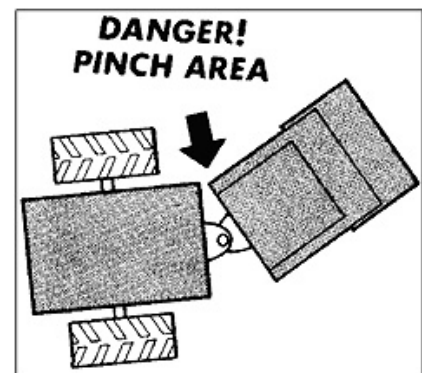

Figure 1-8
- Entry of any person into the collision risk area is prohibited while the engine is on. operation (figure 1-8).